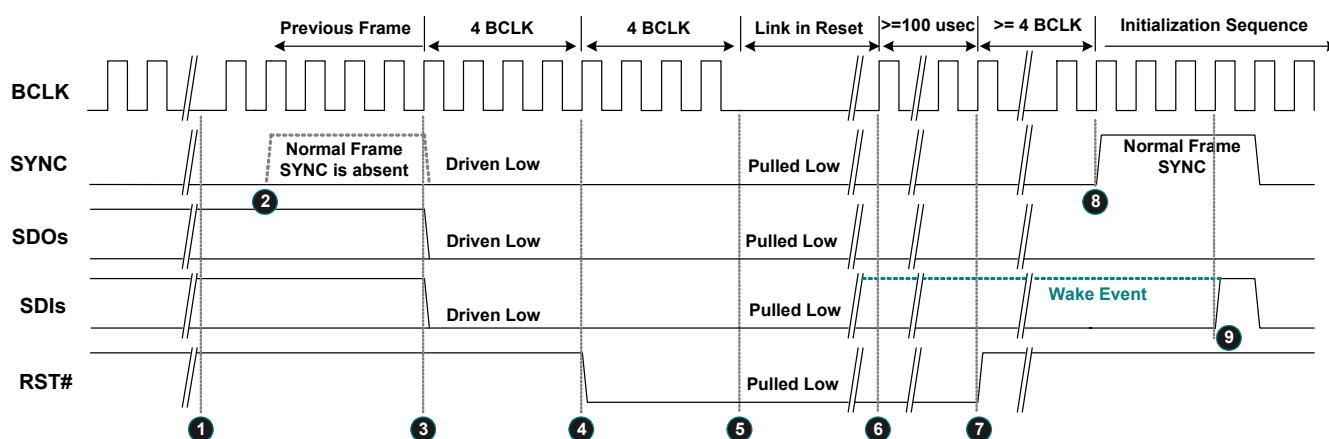

Figure 13. Link Reset Timing
3. Software initiates power management sequences. Figure 13, shows the ‘Link Reset’ timing including the ‘Enter’ sequence (❶~❺) and ‘Exit’ sequence (❻~❸)